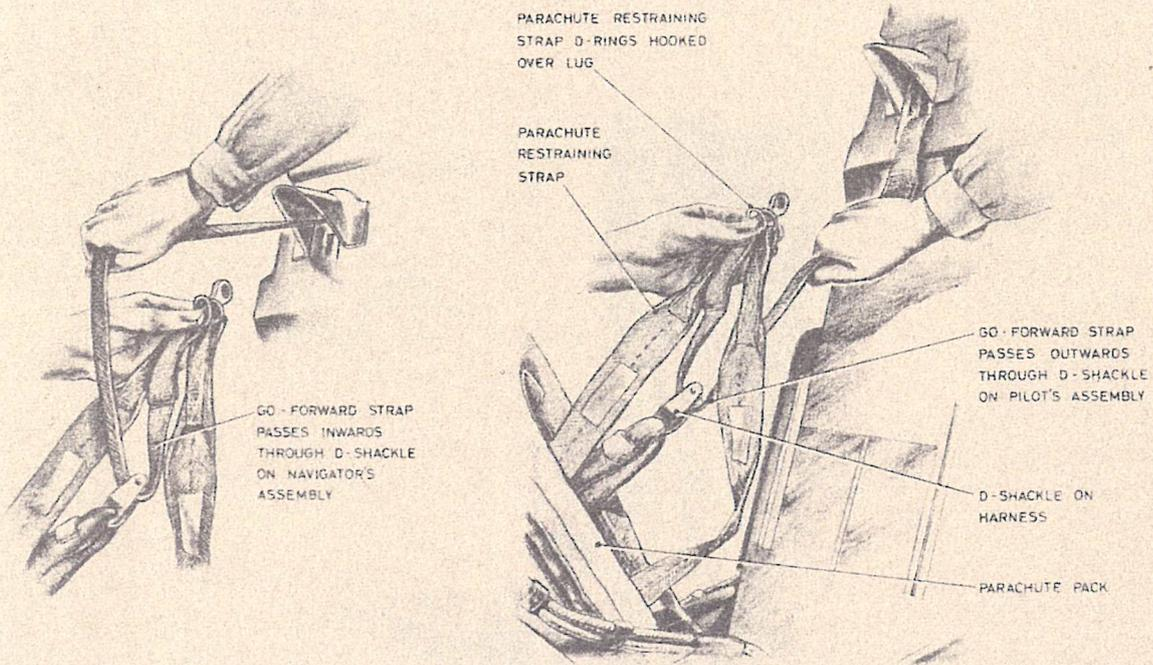

Fig. 2. Installing the parachute assembly: stage 1
- (1) Ensure that the seat has been made safe for servicing in accordance with current instructions.
- (2) Fit the emergency oxygen cylinder into its clamping brackets on the seat beam, ensuring that the loop of the supply tube at the top of the cylinder faces forward (pilot's seat) or outboard (navigator's seat) respectively.
- (3) Pass the emergency oxygen supply tube downwards between the inward relief and excess pressure valve and the seat pan, and connect it to the underside of the valve. Arrange the tube to form an easy sweep and then insert it into the clips on the side of the seat pan. Wire-lock the tube connector to the valve mounting bracket utilising the holes provided.
- (4) Connect the emergency oxygen cylinder operating cable nipple to the anchor section of the static line and engage the end fitting of the cable housing in the anchor socket (fig. 2).